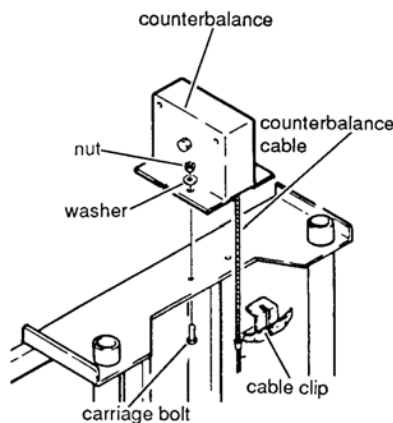
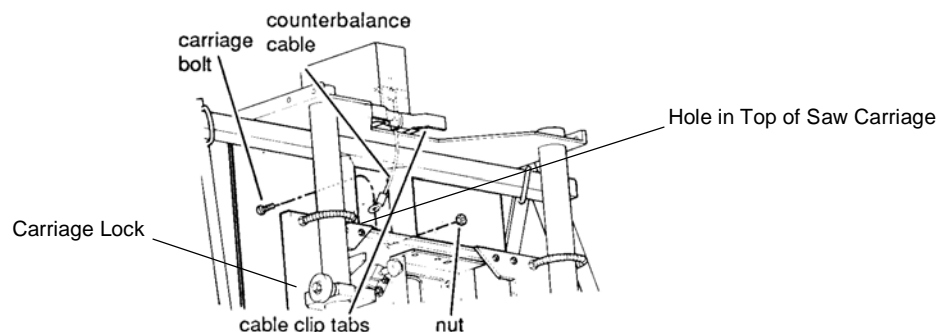
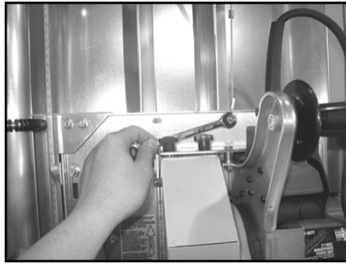
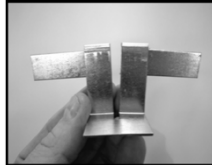

Figure 12: Installing the Counterbalance
Figure 13: Attaching the Counterbalance Cable
Figure 14: Attaching Counterbalance Cable
Figure 15: Cable Clip
A Counterbalance is used on Models **C4**, **C5** and **H-Series** to offset the weight of the carriage and saw. The **6400** and **6800** models use a Counterweight system that is factory installed. When unpacking a 6400 or 6800, loosen carriage lock (Fig. 13), move saw carriage to center. Remove wood support block from bottom, center of weight canister.
1. Remove the two 1/4-20 x 5/8" carriage bolts, nuts, and washers (Fig. 12) from the counterbalance.
4. Hold the Saw Carriage (Page 12) securely while you loosen the Carriage Lock (Fig. 13). Raise the Saw Carriage until the right hole (Fig. 13) in the top of the Saw Carriage aligns with the eye in the end of the Counterbalance Cable (Fig. 13) making sure the cable is **behind** the Saw Carriage (Fig. 14). Tighten Carriage Lock (Fig. 13).
5. Hold the cable end behind the carriage. Remove the carriage bolt and nut, on operators side of carriage, and use them to attach the eyelet of the Counterbalance cable end to the right side, oval hole in the Saw Carriage (Fig. 14). Tighten securely. The cable should be straight up and down (Fig. 16).
6. Bend the Cable Clip (Fig. 15) tabs forward by hand, so they look like the ones in Fig. 12 & 13.
7. Loosen the Carriage Lock (Fig. 13) and lower the Saw Carriage until the Cable Clip is fully exposed, tighten Carriage Lock (Fig. 13). Remove the Cable Clip (Fig. 15) from the Counterbalance Cable and save it for future use (e.g., if you remove the Counterbalance in the future, you will need the Cable Clip to support the tension in the Counterbalance).